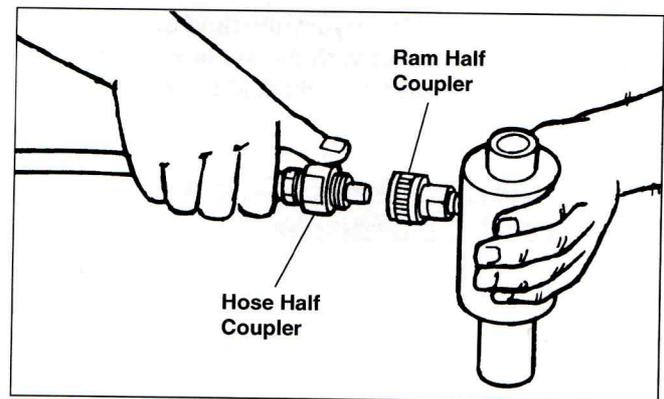

Figure 1 - Hydraulic Connections
2. Connect the hose half coupler at the end of the hose to the ram half coupler on the cylinder. Turn the collar completely on hand-tight (Figure 1).